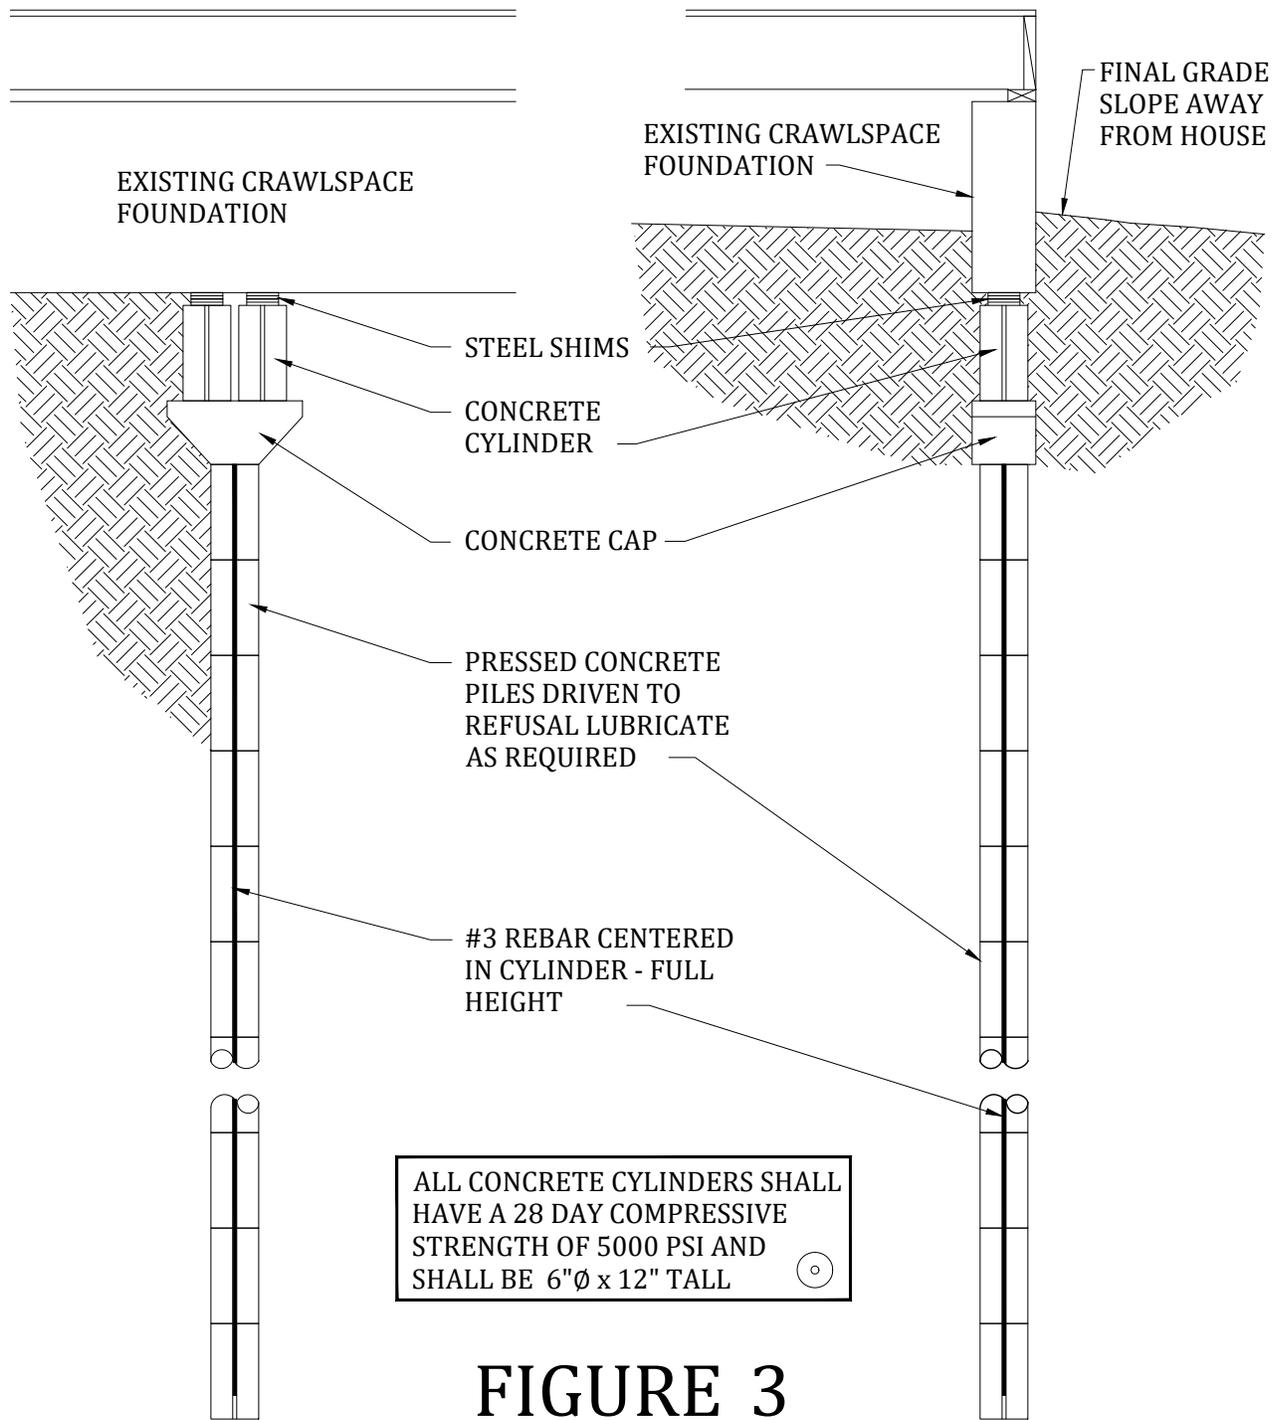

FIGURE 3
- 1) To stabilize and lift the perimeter foundation wall, install (25) perimeter piles or drilled piers as show on Figure 1 of this report. The piles can be concrete cylinders, steel pipe, or helical screws. Refer to Figures 3, 4, 5 and 6 of this report. Space the piles or drilled piers along the perimeter foundation at a maximum of 6 feet on-center. Note, any foundation movement, even corrective movement, can cause additional cosmetic distress.